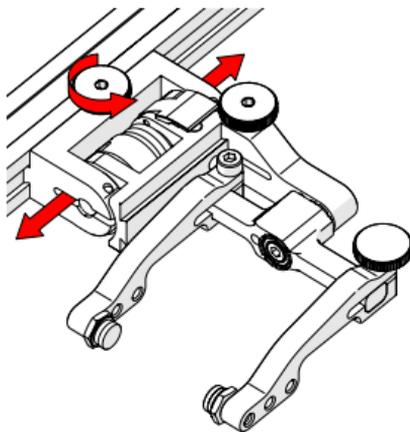

Fig. 90 - Adjust on frame bar
2. Use the probe holder adjustment knob to position the probe holder along the frame bar (Fig. 90).